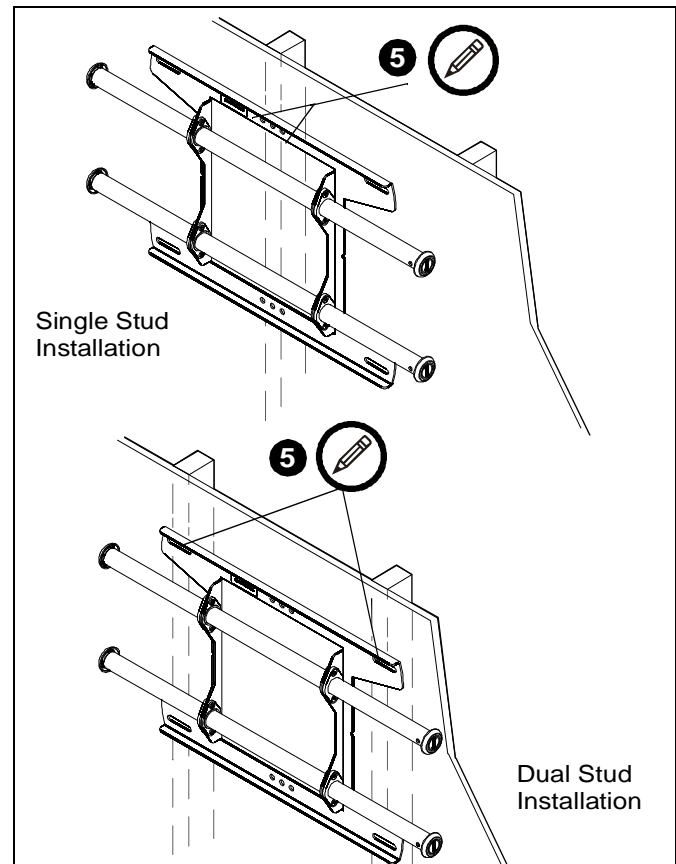

Figure 2
5. Using a level, mark the wall on each stud to attach the mount through the upper mounting slots. (See Figure 2)
NOTE: The MSA and MTA may be attached through the mounting slots on dual studs, or through the center mounting holes on a single stud. (See Figure 2)